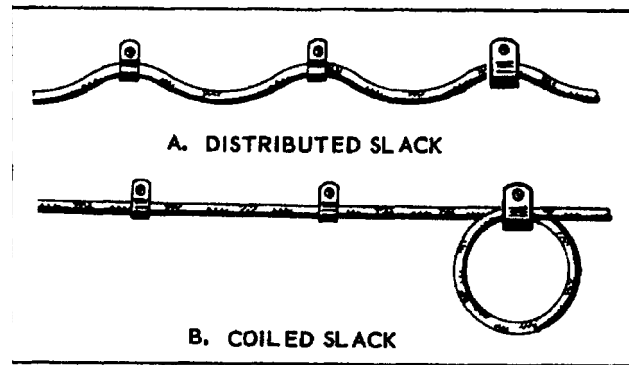

Figure 45. Distributing Slack in Thermocouple Wire
76. AN5537 firewall connector assemblies are mounted as shown in Figure 45.